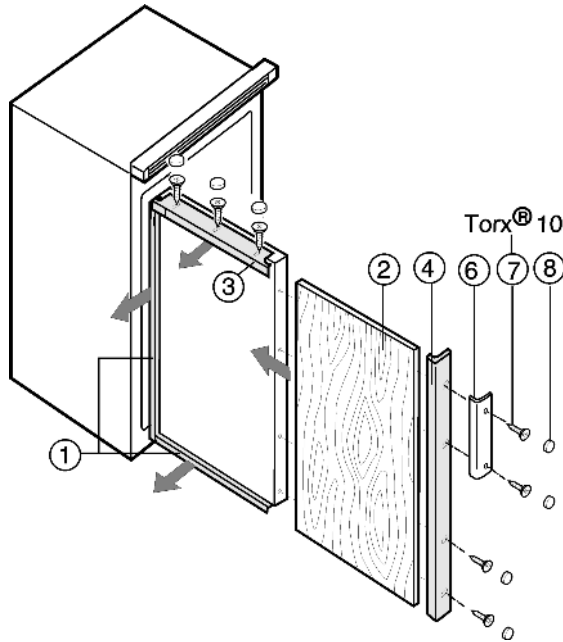

Fig. 11
- Unscrew the decor frame Fig. 11 (4) on the handle side.
- Just loosen the screws of all the other decor frames Fig. 11 (1, 3) and slide the decor frames forwards.
- Slide in the decor panel Fig. 11 (2).
- Slide back the decor frames Fig. 11 (1, 3) and screw them firmly into place.
- Fasten the decor frame Fig. 11 (4) and handle Fig. 11 (6) with the screws Fig. 11 (7).
- Snap the caps Fig. 11 (8) onto all the screw heads.